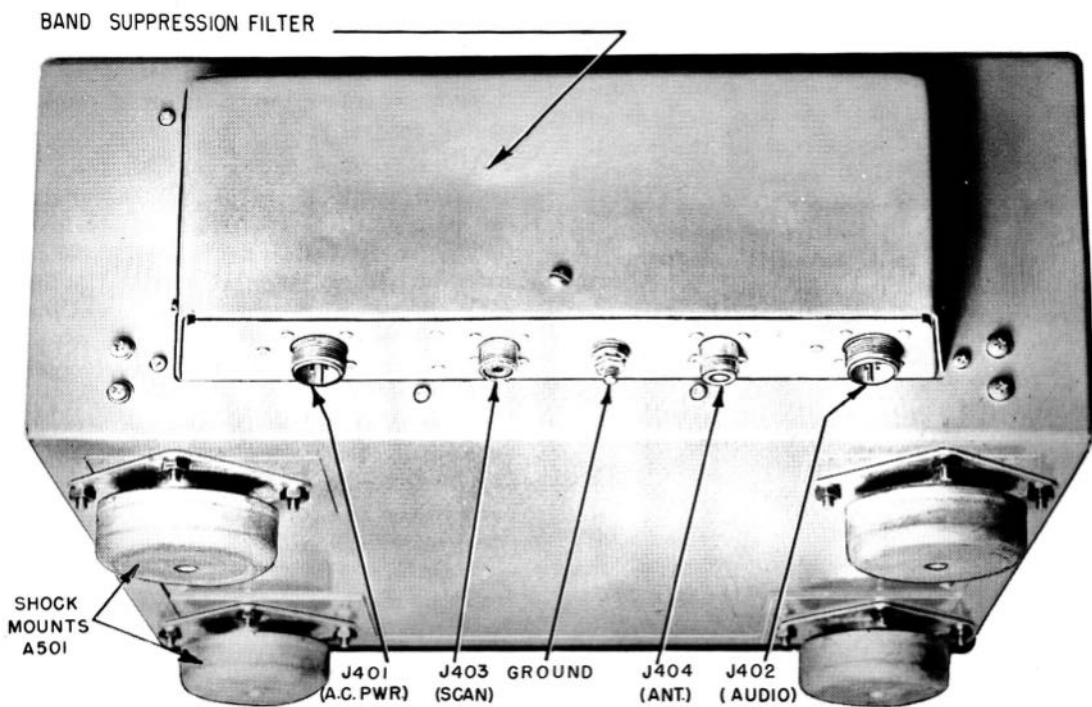

Figure 1-3. Rear View (from below) Showing A.C. POWER, SCAN, ANT, and AUDIO Connectors on Underside of Band Suppression Filter
g. CABLE FILTER ASSEMBLY*.—The cable filter assembly appears in figures 1-3, 1-11 and 3-3. It contains r-f noise filter circuits for the audio output and power input circuits, and provides through connections from the receiver proper to the antenna input and scan channel output circuit connectors. The filter parts are mounted on a base plate which is attached to the rear wall of the receiver cabinet by means of snap-slide fasteners located on the inside of the cabinet. The filter cover, when attached to the base plate, constitutes an r-f shield. The A.C. POWER input, AUDIO output, SCAN channel output and ANTENNA transmission line input connectors (P401-P04), to which all external connections except head-